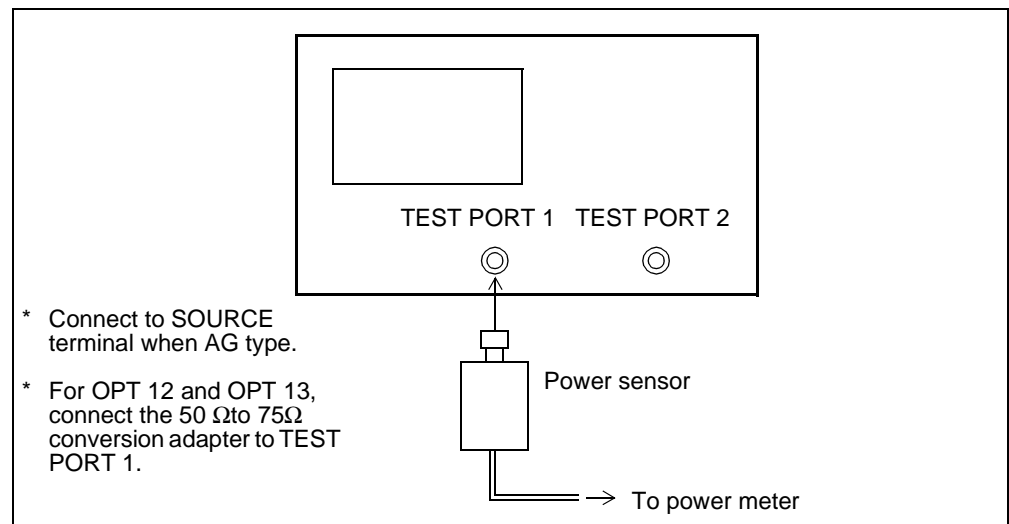

Figure 10-4 Output Level Linearity
- ① Calibrate the power meter to zero.
- ② Set the R3765/67G series as follows.
- ③ Connect the power sensor to the output terminal and perform the measurement. (Refer to Figure 10-4.)